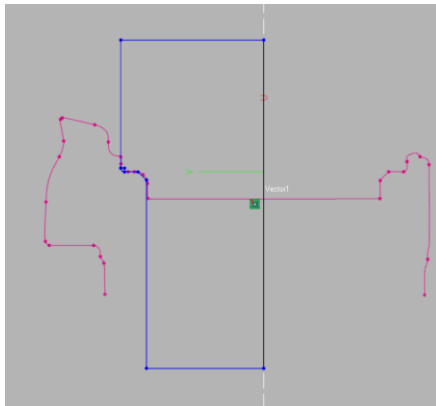

Figure 312
- Draw sketch line as shown in **Figure 312**.